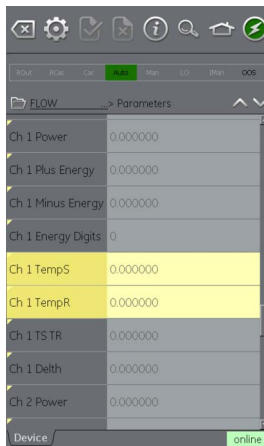

Figure 10-28: Function Finder
- Function Finder then shows the related Function Group in the device view, with all searched variables highlighted in yellow. Refer to Figure 10-28.